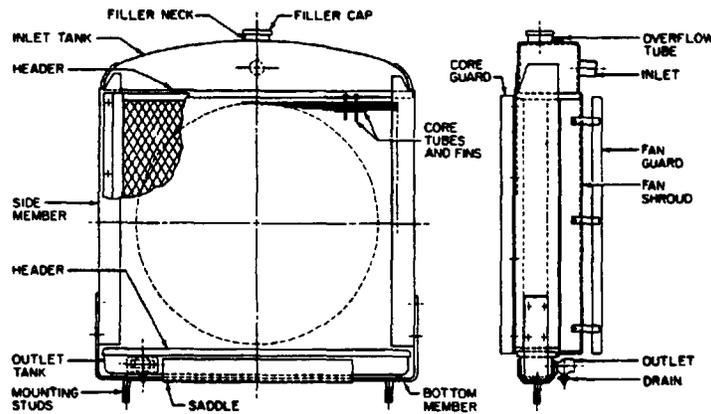

FIGURE 4—SHEET METAL RADIATOR
3.4 Sheet Metal Radiators—Figures 4 to 7 illustrate the nomenclature for sheet metal radiators.
- 4.1 Fan Shroud**—An enclosure to duct air between the radiator and the fan. It provides increased fan efficiency by reducing or eliminating fan and/or radiator air recirculation. See Figures 4, 5, 9, and 11.
- 4.4 Radiator Pressure Cap**—A removable device which closes the cooling system fill opening (filler neck) and which incorporates both pressure and vacuum relief valves. Refer to SAE J151 and SAE J164. See "Filler Cap" in Figures 4, 6, 7, 9, 10, and 11.